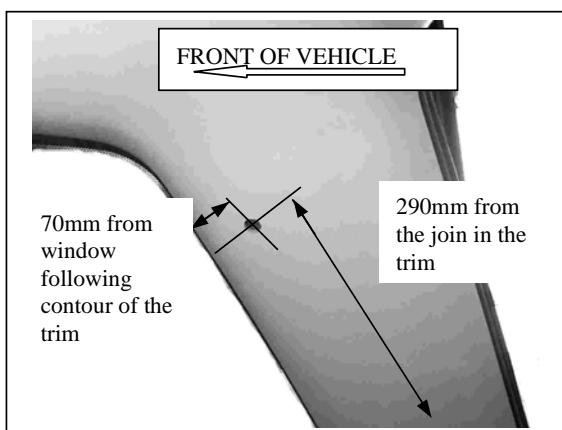

Figure 1
1. Mark the location as shown in figure 1